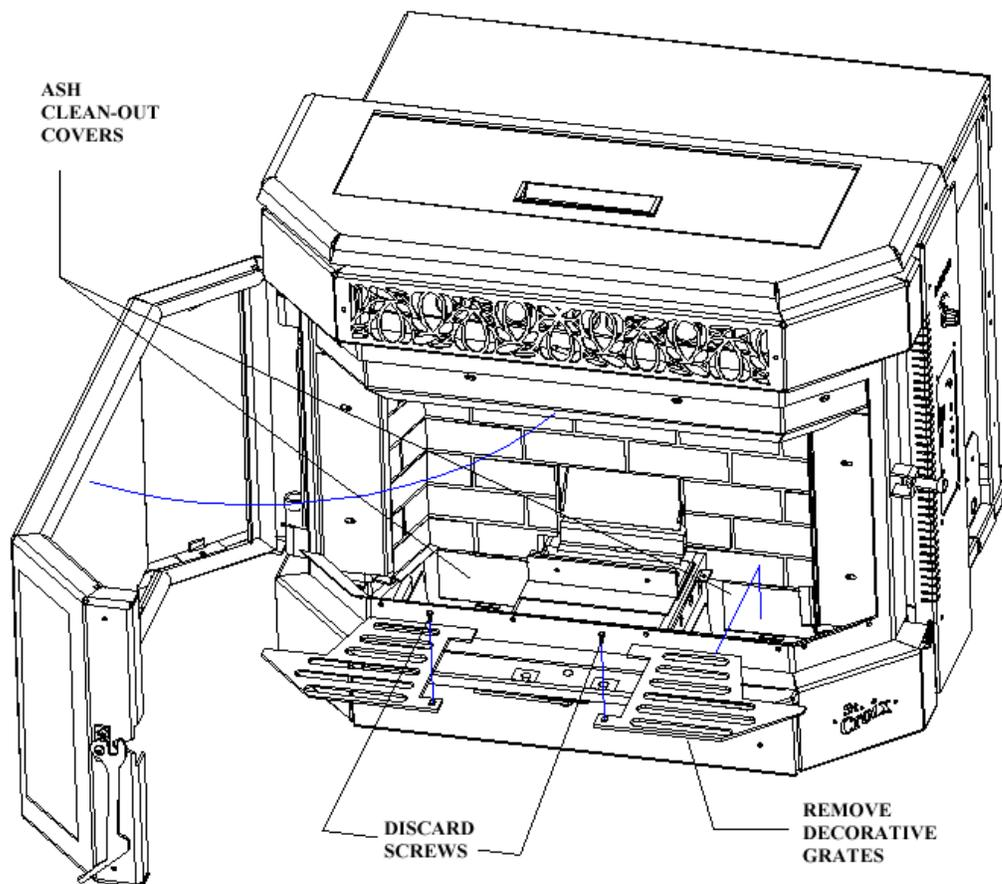

Figure 8
2. Clean the Ash Traps. The York Insert has 2 exhaust cleanout covers (see figure 8) located below the rear brick panel. **IT IS CRITICAL THAT YOU KEEP ASH CLEAN OUTS CLEAN FOR SATISFACTORY PERFORMANCE.** Remove covers and clean regularly. To access the Ash traps for the first time remove the shipping screws that attach the Decorative Grates on both sides and discard them. Remove both side grates and pull
and ash traps behind the ash pan. (To locate the ash traps see Figure 8 on page 12)